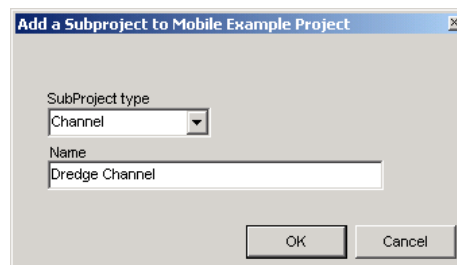

Figure 1.7 Sub-Project window.
2. The prompt window will appear as in Figure 1.7 asking for the type of subproject (*channel or pool*) and a name for the sub-project. Select which project type is required and type in the name for the sub-project.
The subproject window will appear as it did in Figure 1.7 allowing for any of the information to be edited.